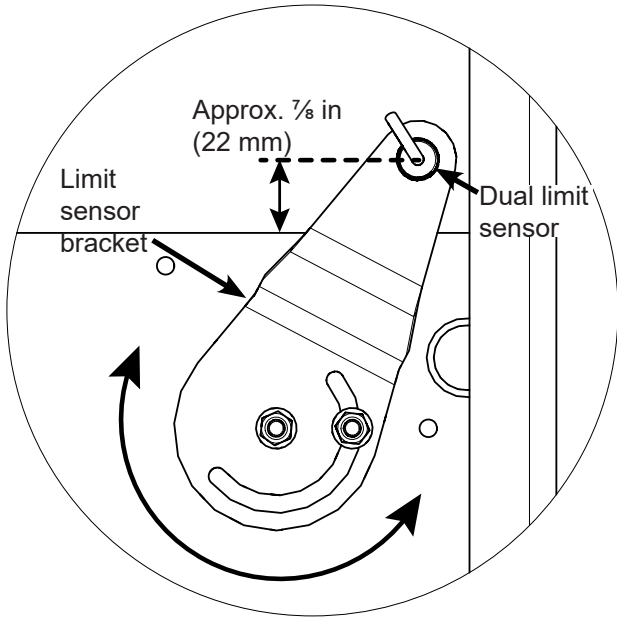

Figure 7. Set Dual Limit Sensor Height
2. Set the height of the dual limit sensor $\frac{7}{8}$ in (22 mm) above the bottom of the rail opening (Figure 7).